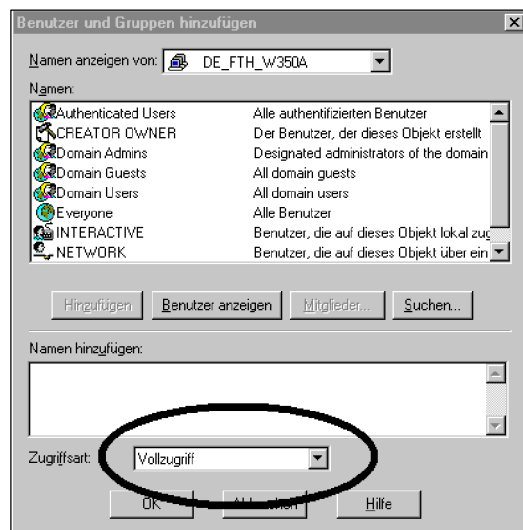

Figure 2-3 “Benutzer und Gruppen hinzufügen” window
4. Select the button “Hinzufügen.” In the window which appears, change “Zugriffsart” to “Vollzugriff.” See figure 2-3. Then close all windows with OK.